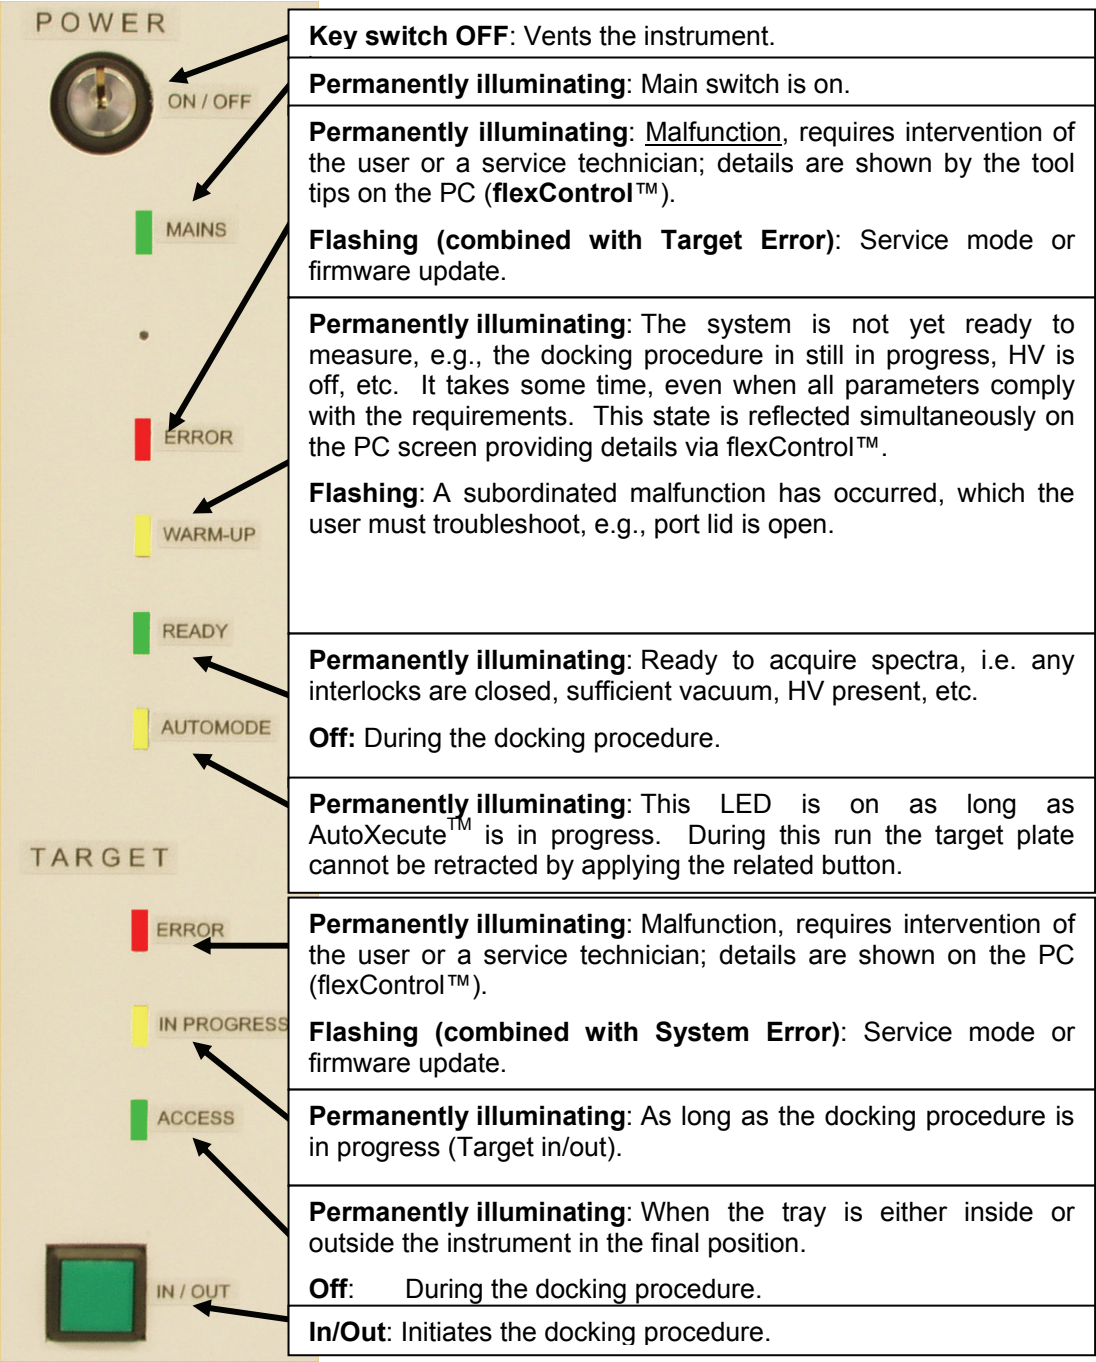

Figure 3-2 The control panel at the front of the instrument
6. Ensure that the POWER LED is illuminated (Figure 3-2).
After initial power-up it may be as long as 12 hours before the instrument is ready for operation, at which time the Ready LED illuminates (Figure 3-2) .
Note: If any faults occur within the system the Error LED (Figure 3-2) illuminates and the system goes into standby. Contact your authorized service personnel for help.
When the instrument is ready for operation the three green LED's **Mains**, **Ready**, and **Access** illuminate green light as shown in Figure 3-2.